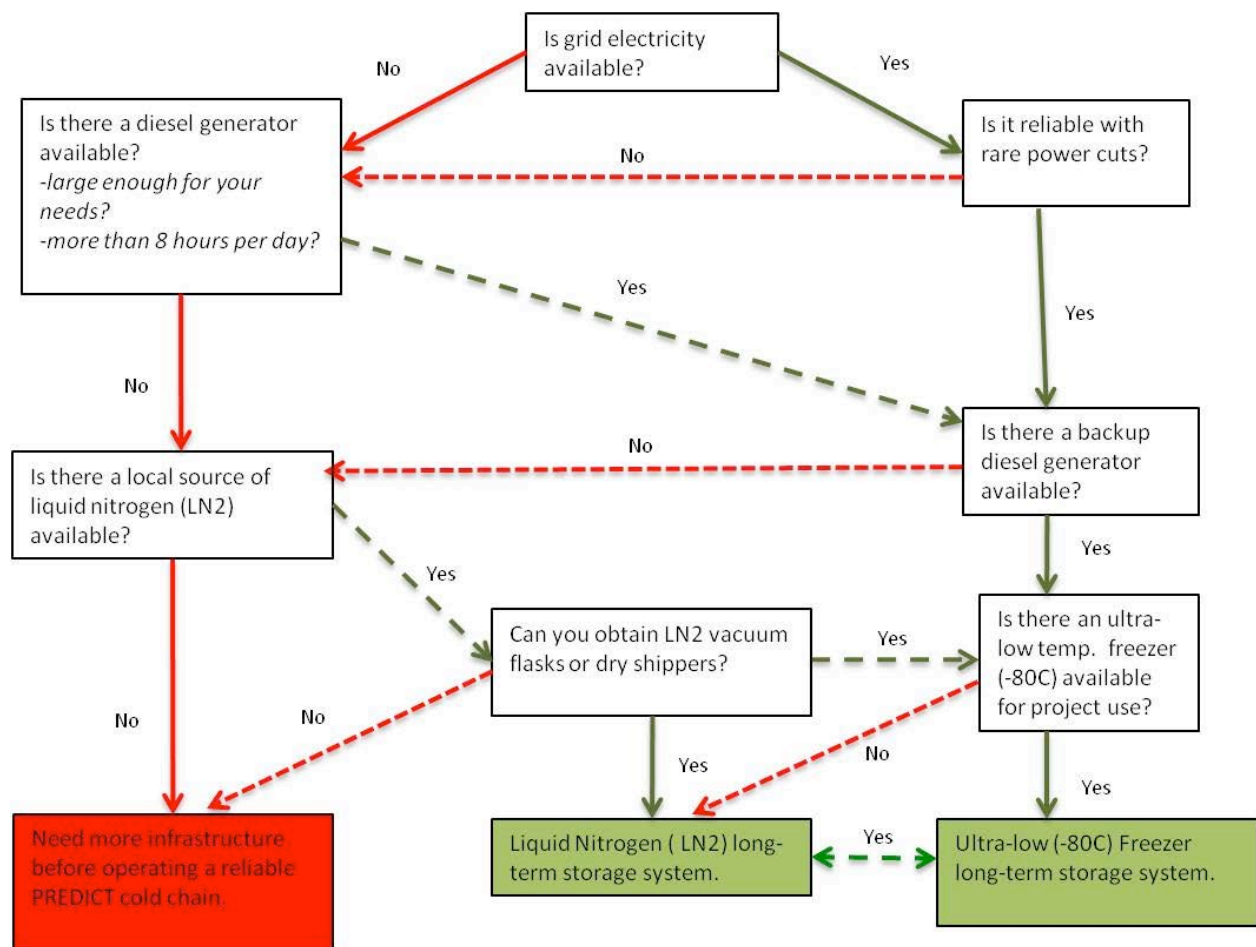

Figure 2. A decision tree for cold chain planning. Based on United Nations World Food Program Logistics Cluster “Logistics Operational Guide”.
3. Determine where the cold chain ends. If your field team delivers samples to a laboratory with an ultra low temperature freezer, then initiating your cold chain may require simply extending it from laboratory to sampling site through the use of LN2 dry-shippers or dewars. If you are developing a cold chain without any pre-existing infrastructure, mapping out an appropriate cold chain from sample collection to endpoint is essential (Figure 2).